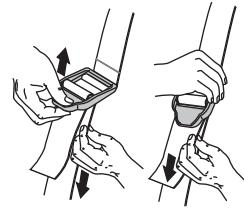

Fig. 6
- Adjust length to fit the operator's size. Pull tab to lengthen, pull strap to shorten (Fig. 6).